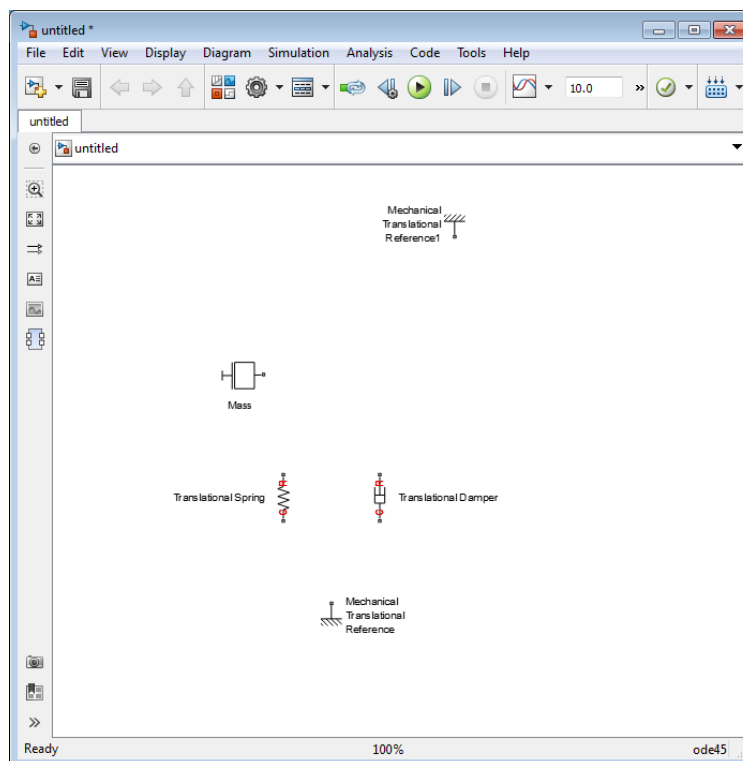

Figure 3.3: Selected Elements, step 5
5. Orient the blocks as shown in the figure 3.3. To rotate a block, select it and press Ctrl+R.